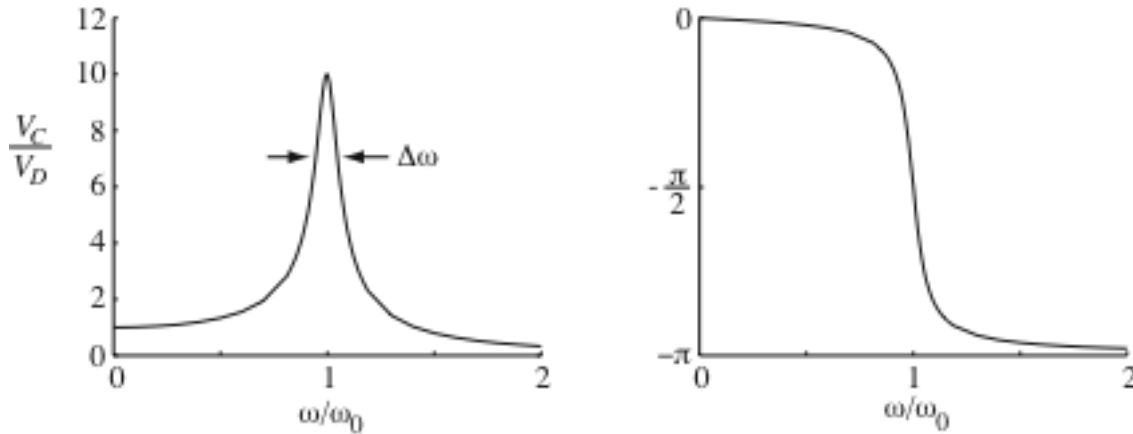
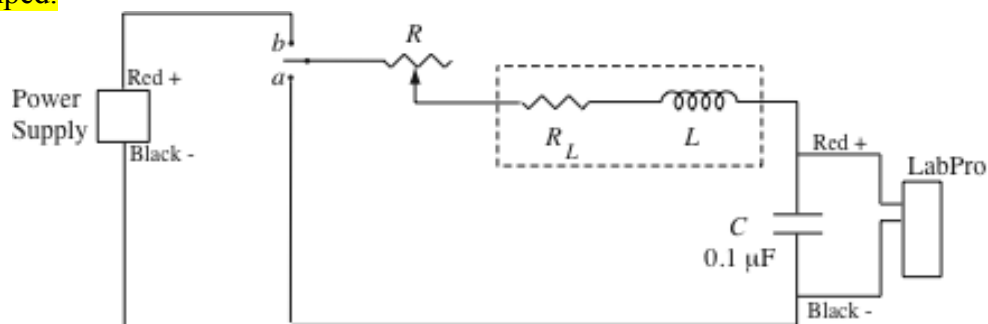
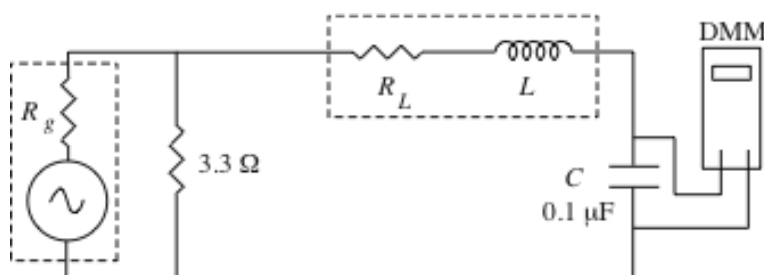
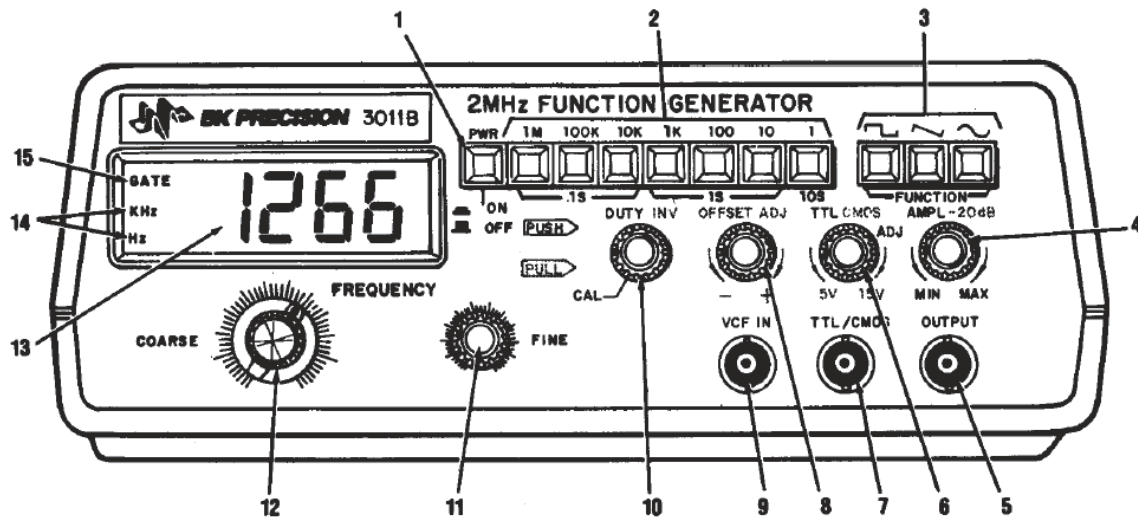

Fig. 3 Amplitude and phase of capacitor voltage as a function of frequency.
Figure 4: circuit to study free-oscillations.
Fig. 5 Circuit for measuring driven oscillations in an RLC circuit.
Fig. 6 The front panel of the function generator, with controls marked.
These two equations are plotted in Fig. 3, where we use the fact that $V_C = q_C/C$ to plot the maximum voltage across the capacitor relative to the maximum driving voltage. (Our apparatus
Since the shape of the peak in V_C characterizes the resonance, it is convenient to have some parameter to specify the sharpness of the peak. Traditionally, this is taken to be the full width $\Delta\omega$, shown in Fig. 3, at which the voltage or current has fallen to $1/\sqrt{2}$ of the peak value. The reason for this choice is that the power dissipation is proportional to I^2 , so these frequencies correspond to the points at which the power dissipation is half of the maximum. Using Eq. 9 we find that the width is related to τ by
To study the “free oscillations case” we will use LoggerPro to record the voltage across the capacitor as a function of time. The required circuit is shown in Fig. 4. Since the coil is not made with superconducting wire, we account for the wire resistance with R_L . **The variable resistor, shown on Fig. 4 by a resistor symbol with an arrow in the middle on the circuit box, should be set initially to the minimum possible resistance.** (You can use the DMM in ohmmeter mode to check that the variable resistor is set to the minimum value before connecting
To study the driven solution we need to use a sine-wave signal source whose operation is explained below in Fig. 6. The real function generator is equivalent to an ideal sine-wave generator in series with a $R_g = 50\ \Omega$ resistor. R_g is labeled in Fig. 5. See Page 7 for details for operating the sine-wave generator. Since R_g is large enough to affect the damping of the circuit, we add the $3.3\ \Omega$ resistor in parallel to reduce the effective resistance of the generator. The other change from Fig. 4 is to replace the LabPro (The blue box that is connected to the computer you used in the free-oscillations portion of the lab) with a **DMM (The orange box), set to read AC voltage**. For this part of the experiment, you will have to manually read out and record the voltage across the capacitor. (The DMM can read AC voltages between about 30 Hz and 1000 Hz. It is unreliable outside of that range.) Also, there is no toggle switch in this circuit.
Connect the circuit as shown in Fig 5, and then vary the driving frequency to find the frequency at which V_C is maximized. This identifies the resonance frequency, in Hertz. Next, you should plot V_C as a function of frequency, taking care to get enough data around the resonance frequency to clearly define the curve. This goes very quickly if you enter f and V_C directly into **Graph.cmb1** and then pick data points to trace the regions of interest. Does your plot look like Fig. 3?
Figure 6 shows the control panel of the function generator most often used in this lab. The instrument is turned on with the power switch, item (1) in the figure. A sine, square or triangle waveform is selected with the buttons labeled FUNCTION (3). The frequency range is determined by pushbuttons (2), and the exact frequency is then set using the coarse and fine FREQUENCY knobs (12, 11, respectively). The output amplitude is determined by the AMPL knob (4). Pulling gently on the AMPL knob toward you decreases the output amplitude by a factor of 10. The display (13) shows the output frequency numerically in Hz or kHz, according to the indicator (14) and decimal point on the display. The selected output appears as a voltage at OUTPUT (5). The other controls and outputs are more specialized, and will not be used here.